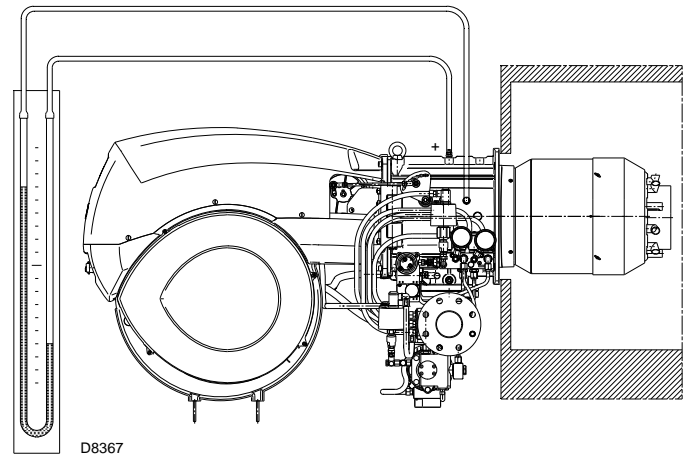

Fig. 34
- Fit a U-type manometer or a differential pressure gauge (Fig. 34), with the (+) fitting on the header gas pressure tap and (-) fitting in the combustion chamber.
In this case increase gas firing delivery. The arrival of gas at the sleeve is indicated by the U-type manometer (Fig. 34).